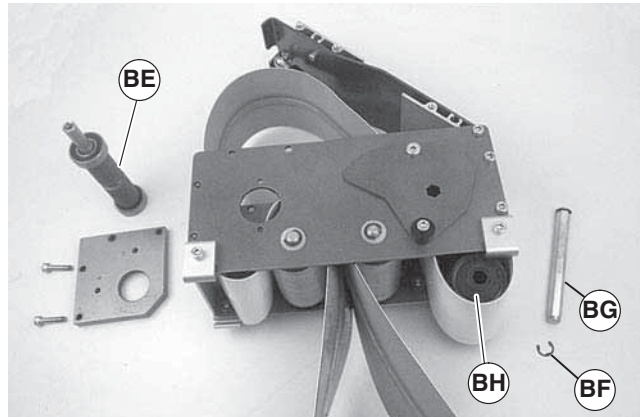

Figure 28
2. Remove drive pulley (Figure 28, item BE).
- For 2" (44 mm), 3" (70 mm) or 4" (95 mm) wide conveyor, detach E-ring clip (Figure 28, item BF). Remove pulley shaft (BG) and remove pulley (BH).